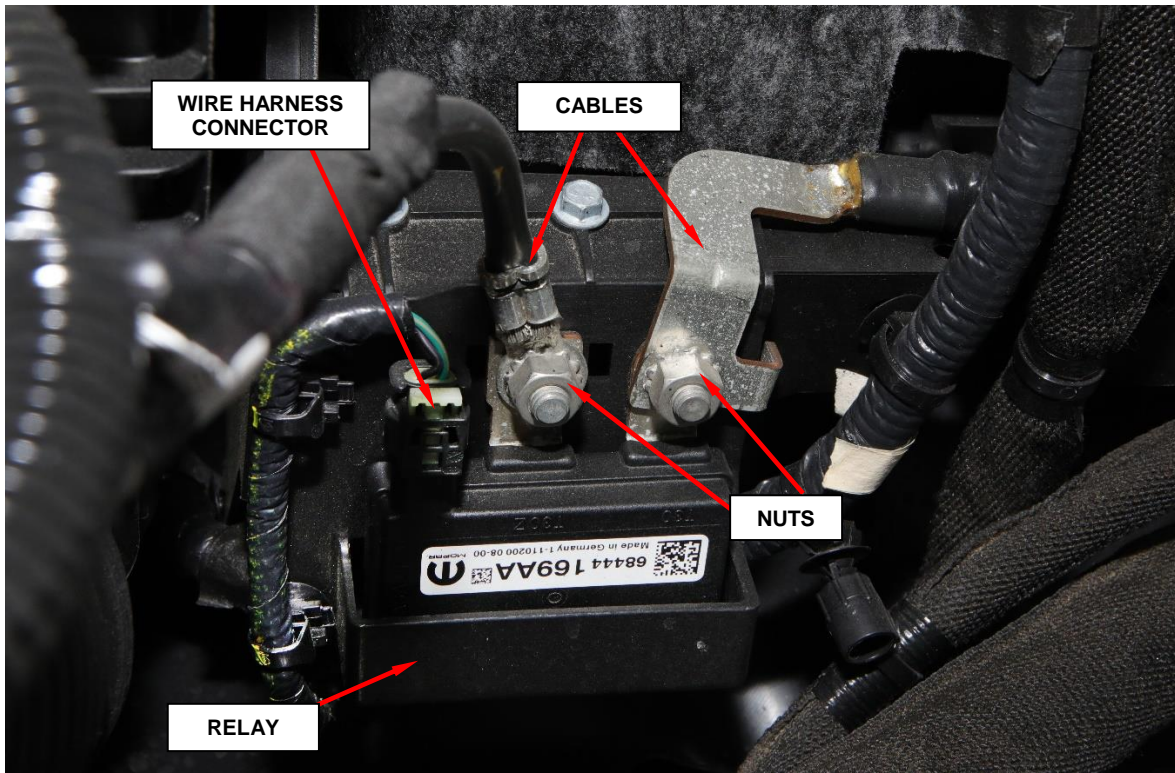

Figure 10 – Intake Air Heater Relay
5. Disconnect the intake air heater relay wire harness connector (Figure 10).
6. Remove the nuts and the cables from intake air heater relay. **Note position of cables before removing** (Figure 10).
7. Remove the intake air heater relay by tilting relay forward and away from the studs then set on a clean surface with the back of the relay facing up (Figure 10).
13. Install the cables to the intake air heater relay and tighten nuts to 15N·m (11ft. lbs.). (Figure 10).
14. Connect the intake air heater relay wire harness connector (Figure 10).